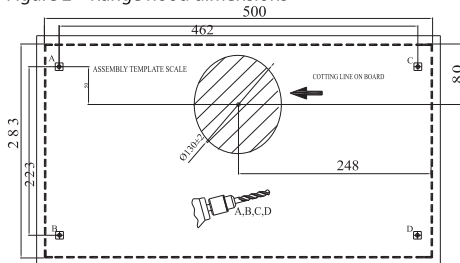

Figure 3 – Drawing of installation holes
The SL-series range hoods are designed for hidden installation in a kitchen cabinet. Figure 3 below shows the distances between the installation openings for installation in a kitchen cabinet.
- Mark on the bottom of the cabinet and drill four holes with diameter $\varnothing$ 2 mm, taking into account the distances between the installation holes specified in Figure 3.